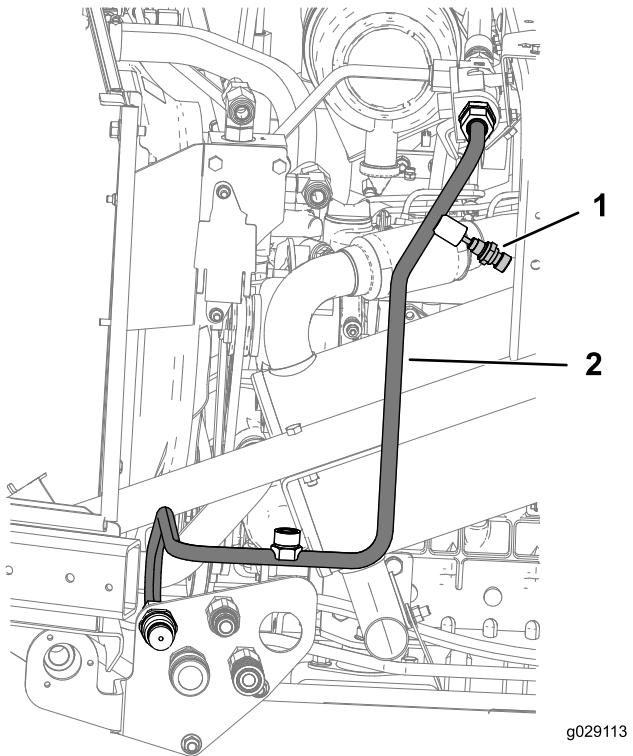

Figure 22
1. Install the hose hydraulic tube H from the adapter fitting (5/8 x 3/4 inch male) on the filter-head assembly to the bulkhead nipple (3.84 inches) on the bulkhead assembly as shown in Figure 22.
- 2. Install the temperature sender on the upper port on the hydraulic tube H as shown in Figure 22.